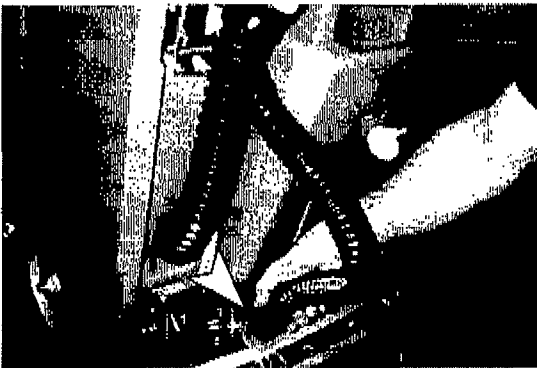

FIG. 9
5. Connect vacuum hose from machine to squeegee assembly (Figure 9).